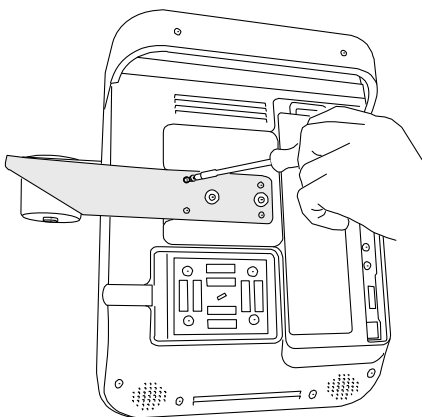

Figure 2 Turn screws on transducer holder
- 2 Using a Phillips screwdriver, tighten the four screws. See Figure 2.
- ❖ Using a Phillips screwdriver, loosen the four screws on the back of the transducer holder. See Figure 2.